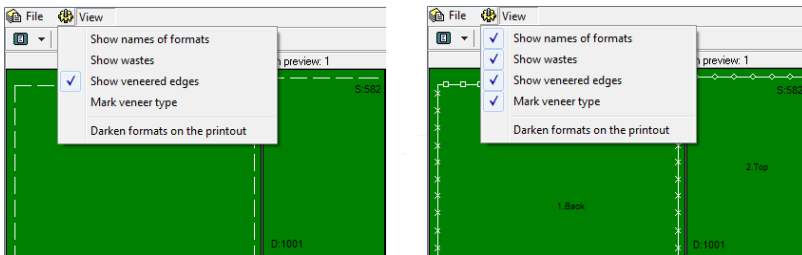

Fig. 80 – effects of different view configurations
- **'Show veneered edges'** - displayed veneers as a white dashed line (Fig. 80);
- **'Mark veneer type'** – designates various types of veneers with different lines (Fig. 80);